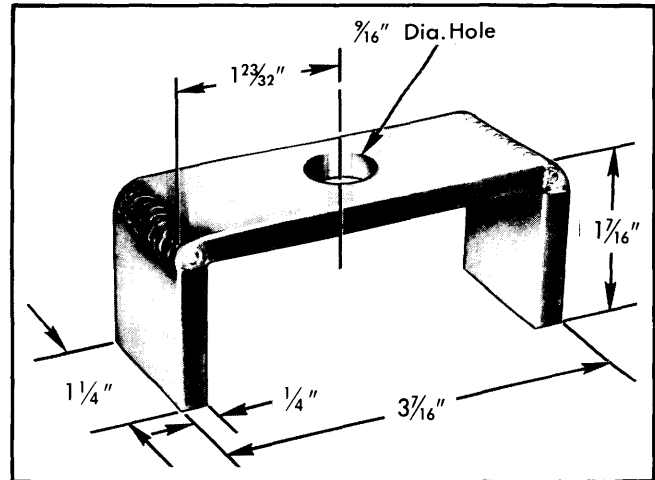
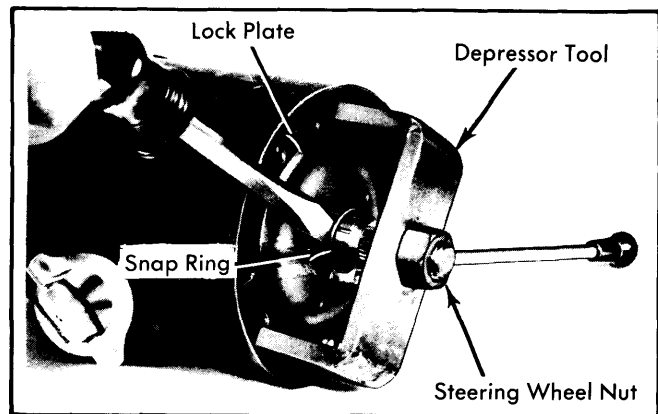

Fig. 1 Lock Plate Depressor Tool
Fig. 2 Removing Snap Ring Using Lock Plate Depressor Tool
2) Remove horn contact spring. Fabricate a suitable tool as shown in illustration (see Fig. 1) to depress lock plate. Install tool as shown in illustration (see Fig. 2) and depress lock plate as far as possible.